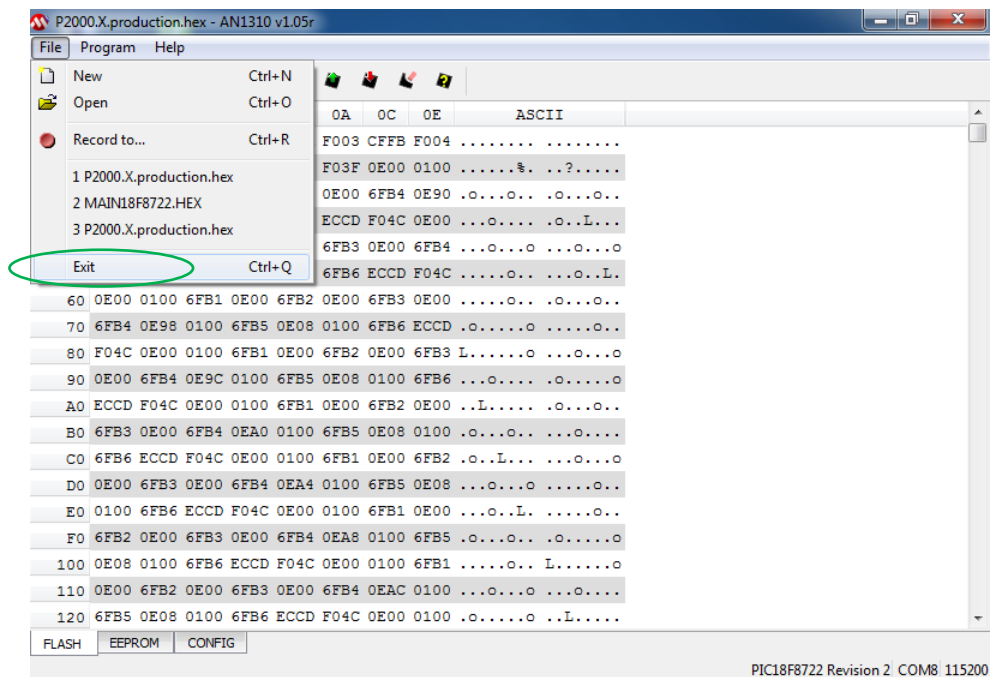

Figure 3.21
- 10. Close the bootloader software (*Figure 3.21*).